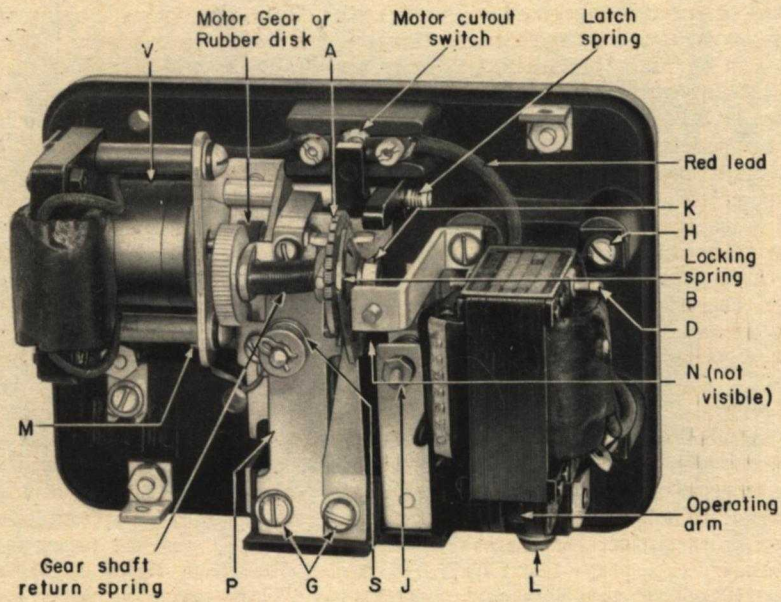
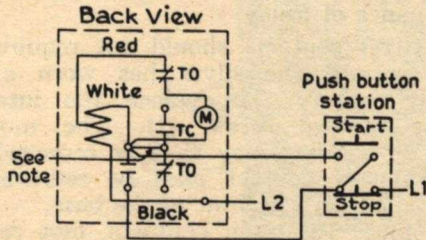

Fig. 2. Another View of Relay Shown in Fig. 1
Fig. 3. Connections with Momentary-contact Push-button Station
The CR2820-1099 time-delay relay is driven by a synchronous motor suitable for use on alternating current only. When the relay is energized, the solenoid engages the motor with the contact-operating mechanism; a tap on the solenoid provides the correct voltage for the motor. After the predetermined time interval has elapsed, the normally open contact (TC) closes, the normally closed contact (TO) opens (See Fig. 3 and 4), and the motor cutout switch (TO) disconnects the motor. The contacts remain in the timed-out position until the relay is de-energized, at which time the solenoid drops out and the contacts are reset instantly to their original position.
An interlock contact (J), Fig. 2, is provided to establish a holding circuit when the relay is energized from a momentary-contact push button as shown in Fig. 3. This contact is normally open, and closes when the solenoid is energized.
NOTE: If the relay studs in Fig. 3 and 4 are connected by a punching, as indicated, the punching should be removed unless the wiring diagram shows these studs connected together.
Spring (S, Fig. 2). Used only for relays having rubber disk drive	235182